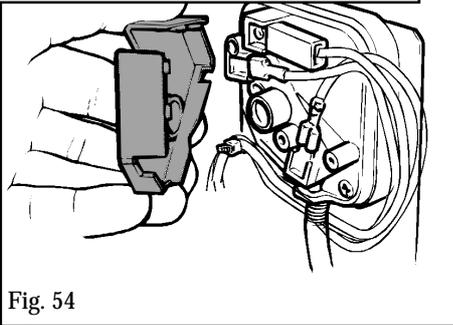

Fig. 54
15.10.4 Remove the cover from the air pressure switch (see figure 54)
15.11.3 Remove the cover from the air pressure switch (see figure 54)